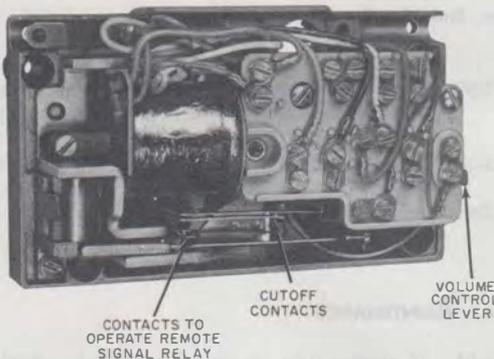

Fig. 3—E1D Ringer, Internal View
4.02 The E1D ringer is equipped with two sets of contacts (Fig. 3). One set, controlled by the clapper, operates a remote signal relay; the other set, operated by the volume control cam, cuts off remote signals. For connections, refer to section on farm interphone.